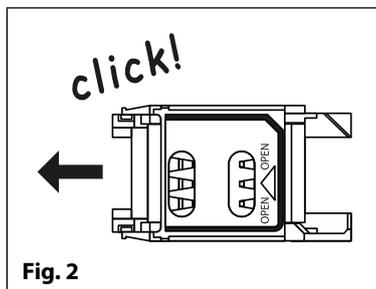

Fig. 2
1. On the GSM4K module slide the SIM holder on the back of the unit to the left until it 'clicks', as shown in **Fig.2** (in the case of the GSMVRK and Art.2270 GSM modules slide the SIM holder to the right).